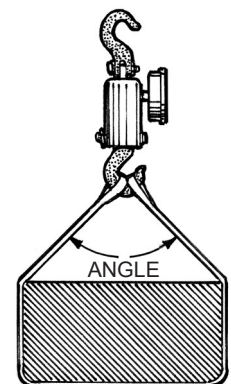

FIGURE 1
- If a basket type sling is used to lift the item (a sling that goes from the hook, around the item and back to the hook), remember that the greater the angle between the ends of the sling, the more the sling's lifting capacity is decreased. In the example shown in Figure 1, the